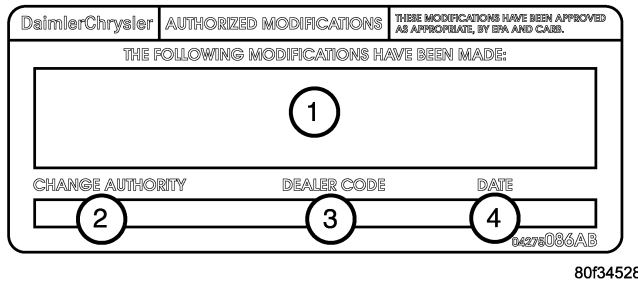

Fig. 1 AUTHORIZED MODIFICATION LABEL
- 13. Type the necessary information on the “Authorized Modification Label” p/n 04275086AB and attach near the VECI label (Fig. 1).
18. Type the necessary information on the "Authorized Modification Label" p/n 04275086AB and attach near the VECI label (Fig. 1). **